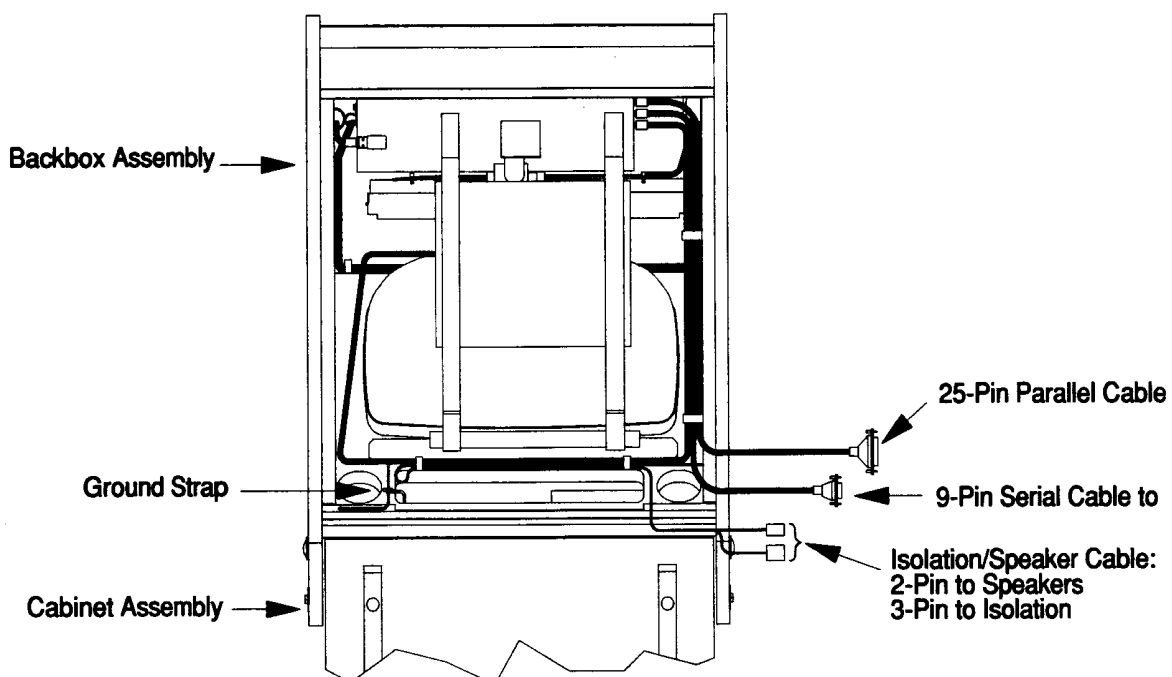

FIGURE 8
7. Stand the backbox upright. Unlock, unscrew and remove the rear door. Pull the three cables out through the back door opening and let them hang down the rear of the backbox. See Figure 8. Among the parts in the cash box locate the four mounting bolts, washers and bushings, the 1/4" hex key and the 7/32" hex key. Set these parts aside.